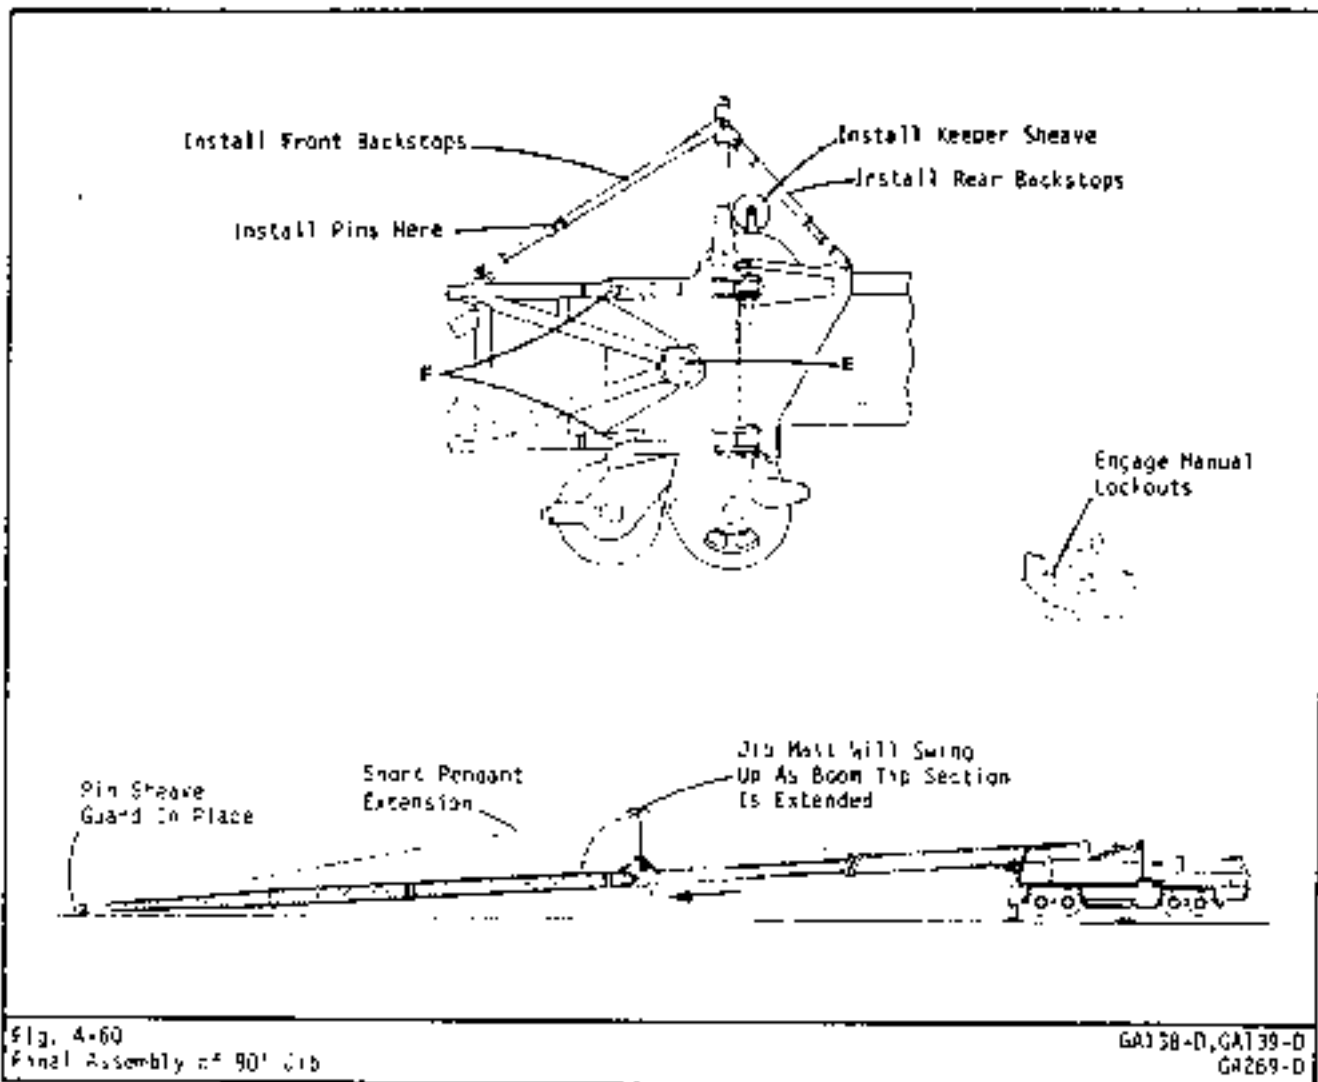

Fig. 4-60
Step 10: Refer to Fig. 4-60. Make certain of proper pin installation at "E". Remove pins at "F" and store. Extend boom tip section slowly to raise jib mast into working
Step 11: With boom tip section fully extended, engage manual lockouts on boom middle section. Install front and rear backstops as in Fig. 4-60. Reeve hoist rope thru jib head sheave and secure sheave guard in place. Install keeper sheave.